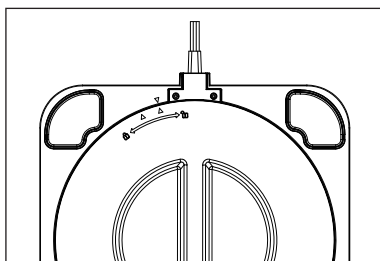

fig. 2
2) After the filter plastic bag is removed, put the filter back into the product, and align the triangle of the bottom cover with the triangle on the machine counterclockwise and turn it in the direction of the arrow, as shown below (figure 2):